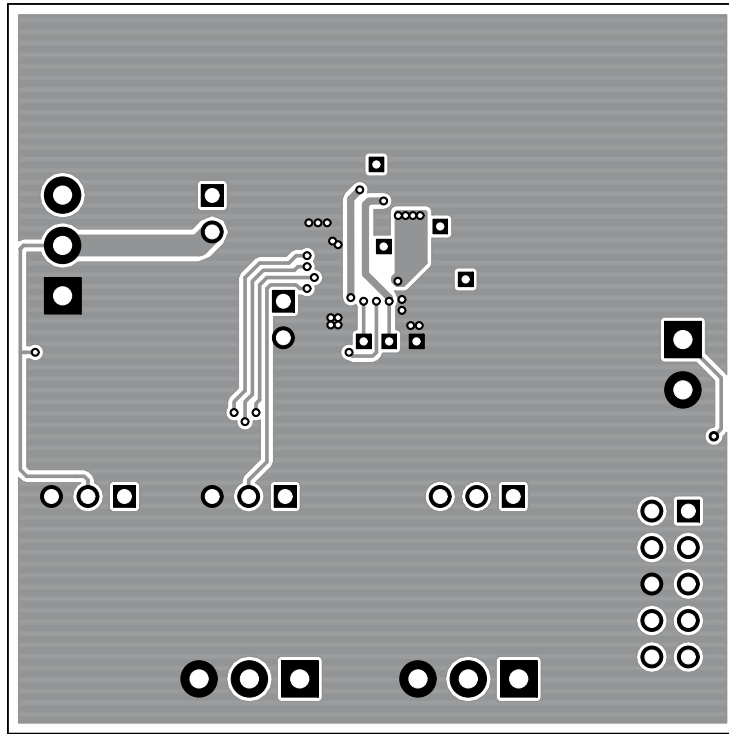

Figure 6. Bottom Layer
- Updated lit item 9..... 5
- Added New figure 6